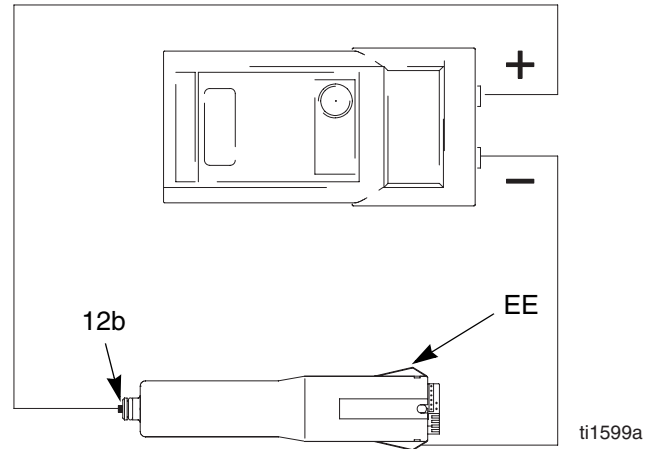

Fig. 20. Test Power Supply Resistance
1. Remove the power supply (12), page 46.
2. Remove the turbine alternator (13) from the power supply, page 47.
3. Measure resistance from the power supply's ground strips (EE) to the spring (12b). See FIG. 20..